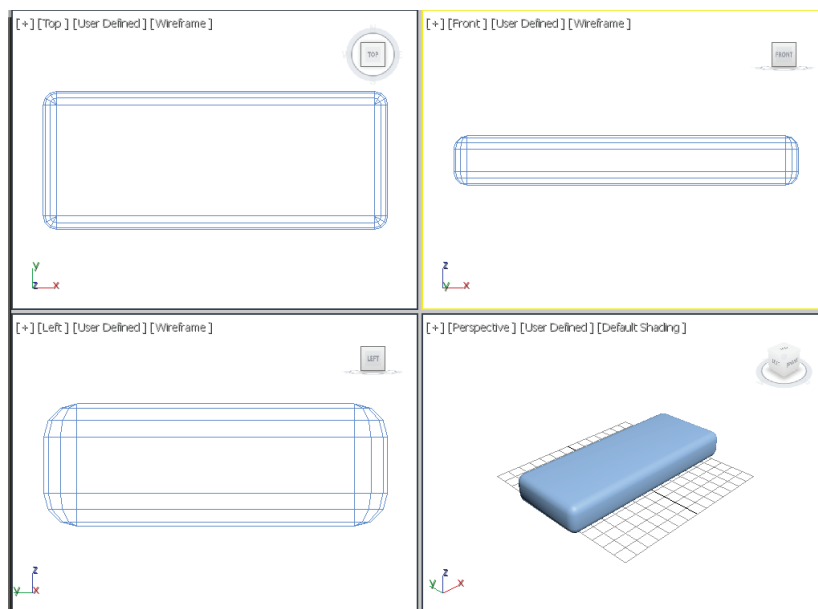

Figure 3-22 A chamfer box created for seat support
3. Choose the **Create** button; a chamfer box is created, as shown in Figure 3-22.